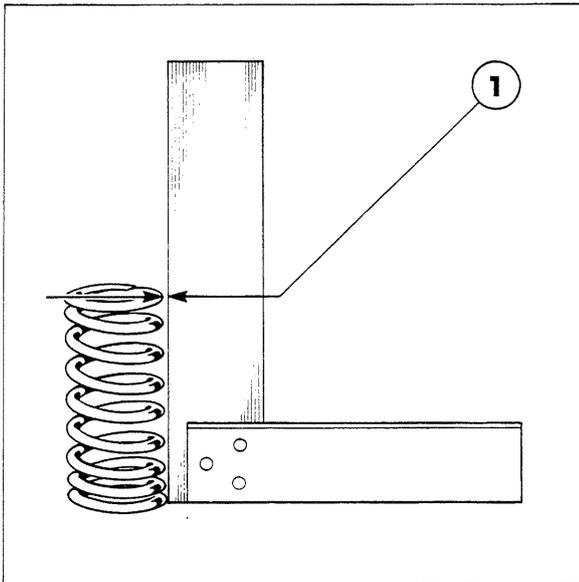

Figure 15
10. Replace worn or damaged valve springs. Check for squareness and reject if out-of-squareness exceeds 0.06 in. (1.5 mm), Figure 15. Check the free length and loaded length of each valve spring, see "Specifications"—Chapter 4. Ensure the valve spring retainer locks are in good condition and the exhaust valve rotators are not binding or worn.